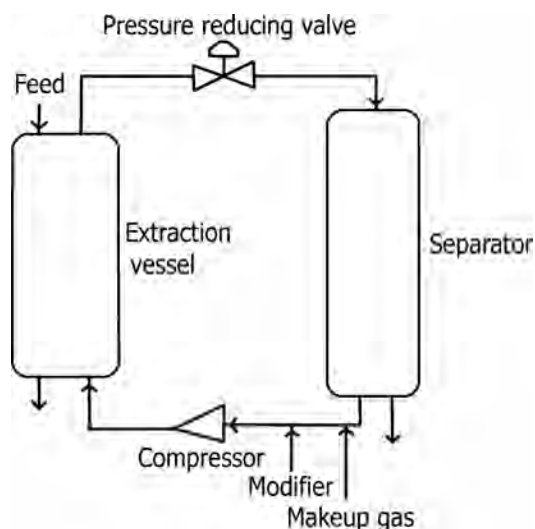

FIGURE 17.51 Simplified flow diagram for a supercritical solvent extraction process.
- Figure 17.51 is a simplified flow diagram for supercritical solvent extraction process. It involves two vessels, the extractor operating under pressure and the separator, operating at low pressure.